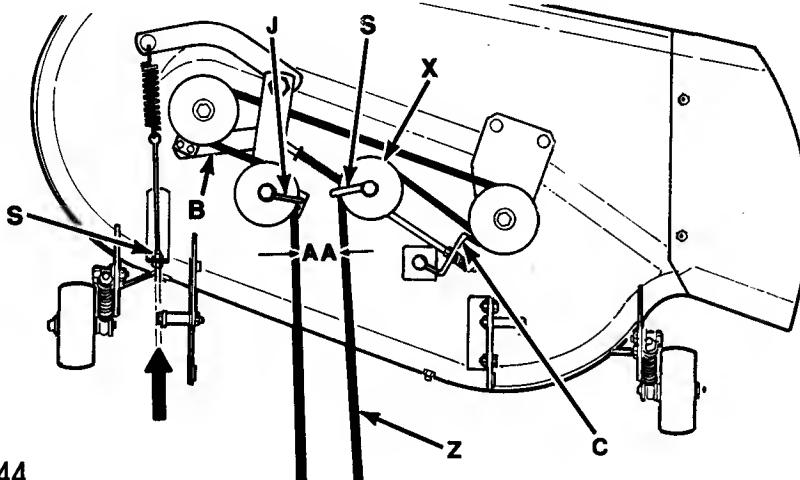
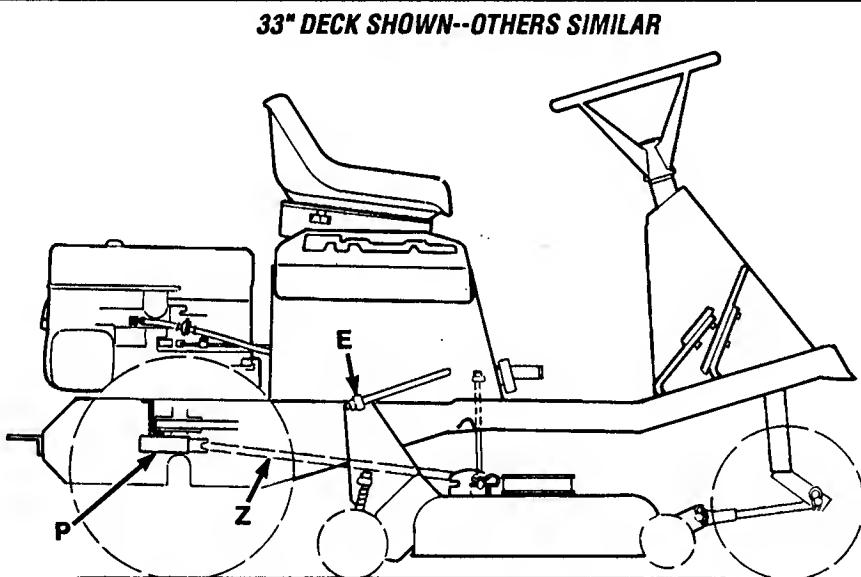

Fig. 44
Fig. 45
7. Re-tighten belt guide (H) 1/16" (.15 cm) away from drive belt.
8. With the mower in the highest setting, check clearance between belt at point (AA). If there is not at least a 1" (2.5 cm) gap, move mower ahead by adjusting pivot location on lift arms (E, Fig. 45). It may be necessary to adjust rod (A, Fig. 45) to level mower.
9. With mower blade drive engaged, belt guide (Y) should not contact drive belt.
1. Loosen belt guides (A & B Fig. 42 and (P, Fig. 45).
2. Rotate idler arm (C) away from pulley (R). Replace belt (Z) with new belt.
3. Route belt between idler (Q) and belt guide (A). Place guide (A) in approximate position shown and secure.
4. Place new belt into groove of stationary idler (E) and secure belt guide (B) in rear of slot as shown.
5. Place new belt into groove of engine pulley and assemble belt guide (P, Fig. 45) as far forward as possible. Re-tighten guide (P). Check clearance between guide (P) and bolt heads on differential. A gap of 1/8" should exist.
7. With the mower in the highest setting, check clearance between belt at point (AA, Fig. 44) If there is not at least a 1" (2.5 cm) gap, move mower ahead by adjusting pivot location on lift arms (E Fig. 45).
3. Replace belt (Z) with new belt. Place new belt around pulleys, between idlers and belt guides (J & S) as shown in Fig. 44.
4. Secure belt guide (S) and idler in rear of slot as shown.
6. Position guide (J) through hole in bottom of plate and secure in place.
7. Place new belt into groove of engine pulley and slide belt guide (P, Fig. 45) as far forward as possible. Re-tighten guide (P). It may be necessary to rotate differential to assemble belt. After assembly, check clearance between guide (P) and bolt heads of differential. A gap of $1/8"$ should exist.
9. With the mower in the highest setting, check clearance between belt at point (AA). If there is not at least a $1"$ (2.5 cm) gap, relocate idler (X) as far ahead as possible. If more adjustment is needed, move mower ahead by adjusting pivot location on lift arms (E, Fig. 45).
28" Decks Adjust the mower drive cable end (S, Fig. 42 and S, Fig. 48 on the following page) or move mower back by adjusting pivot location on lift arms (E, Fig. 45). Repeat this test until belt does not move. Check mower leveling after adjusting pivot (E).
1. Loosen belt guides (J & S, Fig. 44 and P, Fig. 45).
2. Rotate idler arm (B, Fig. 44) and brake arm (C), and remove belt (Z).
33" & 36" Decks Adjust the mower drive cable end (S, Figs. 42 & 44 and S, Fig. 48 on the following page) or relocate the adjustable pulley (B, Fig. 42 or X, Fig. 44) within its slot on the idler support bracket. If further adjustment is necessary, move mower ahead by adjusting pivot location on lift arms (E, Fig. 45). Repeat this test until belt does not move. Check mower leveling after adjusting pivots (E).
3. Adjust cable (S, Figs. 48 & 49) at nuts (R, Fig. 48) so there is a slight slack in spring (T, Fig. 44). **WHEN ADJUSTED, SPRING (T) SHOULD NOT BE UNDER TENSION**